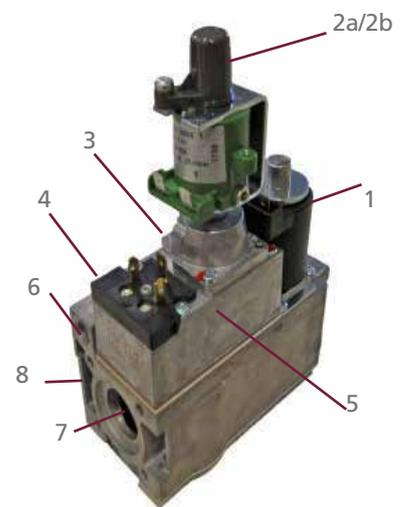

Figure 15. Honeywell gas valve
3. Inlet pressure test point (not visible on figure 15)
4. Outlet pressure test point (not visible on figure 15)